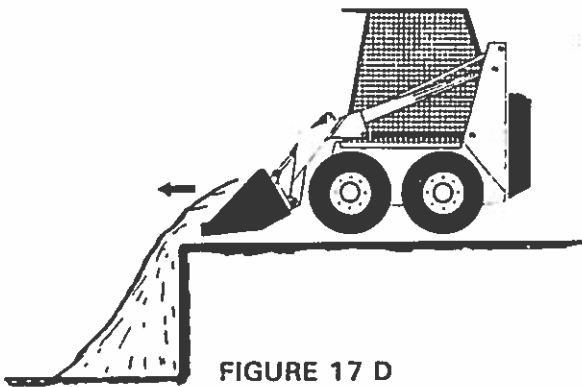

FIGURE 17 D
2. To level a filled area, push lift arm pedal into the "float" position, tilt bucket forward and drive machine backwards to drag bucket and spread material, as in FIGURE 17 B.